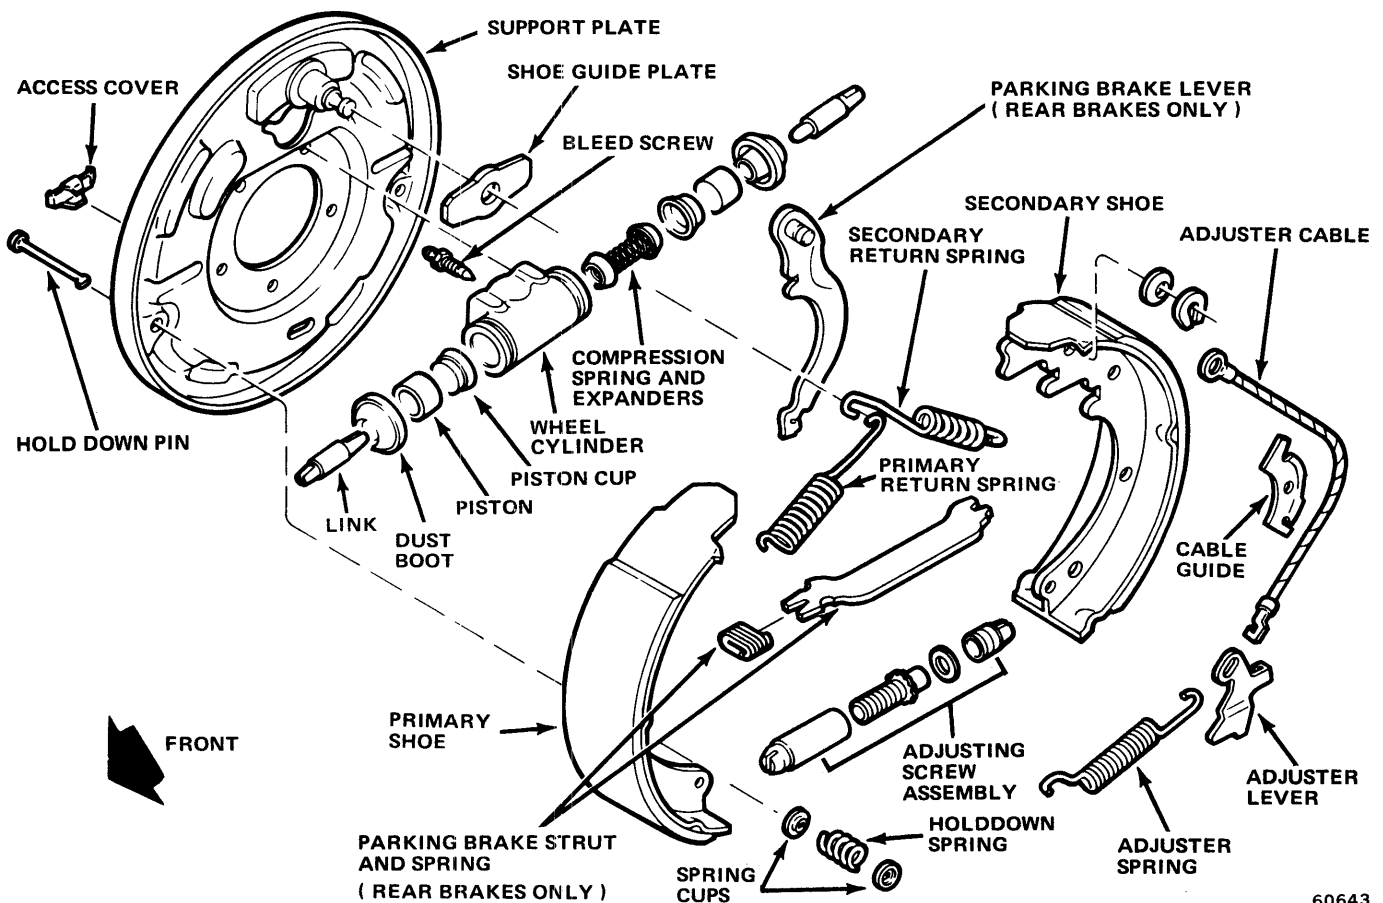
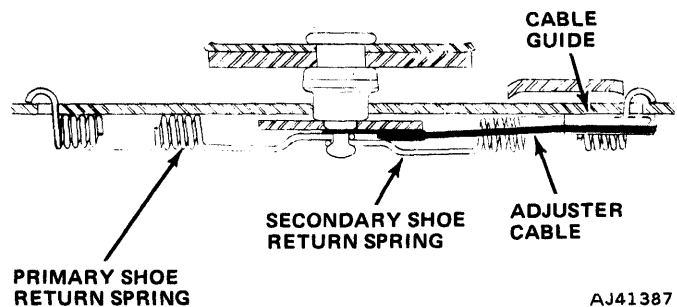

Fig. 9-13 Drum Brake Assembly—CJ Models
Fig. 9-14 Brakeshoe Spring Installation
The drum brake units consist of a support plate, two brakeshoes, brakeshoe return springs, an adjusting screw assembly, holddown springs, automatic adjuster components, and a wheel cylinder (fig. 9-13).
(1) Lubricate support plate ledges, anchor pin, self-adjusting cable guide adjuster screw threads, and pivot with molydisulphide grease or chassis lubricant. If servicing rear brakes, lubricate parking brake cable lever located on secondary shoes.
(2) Position brakeshoes on the brake support plate and install holddown springs. On rear brakes, install parking brake lever. Install parking brake cable on lever and install strut and spring.
(3) Place adjuster cable eyelet on anchor pin.
(4) Install primary return spring.
(5) Install cable guide and install secondary return spring (fig. 9-13).
(6) Install adjusting screw assembly. Place small hooked end of adjuster spring in large hole in primary shoe and place large hooked end of adjuster spring in adjuster lever.
(7) Place hooked end of adjuster cable over cable guide (fig. 9-14).
(8) Grasp adjuster lever with pliers and hook adjuster lever tang in large hole in bottom of secondary shoe.